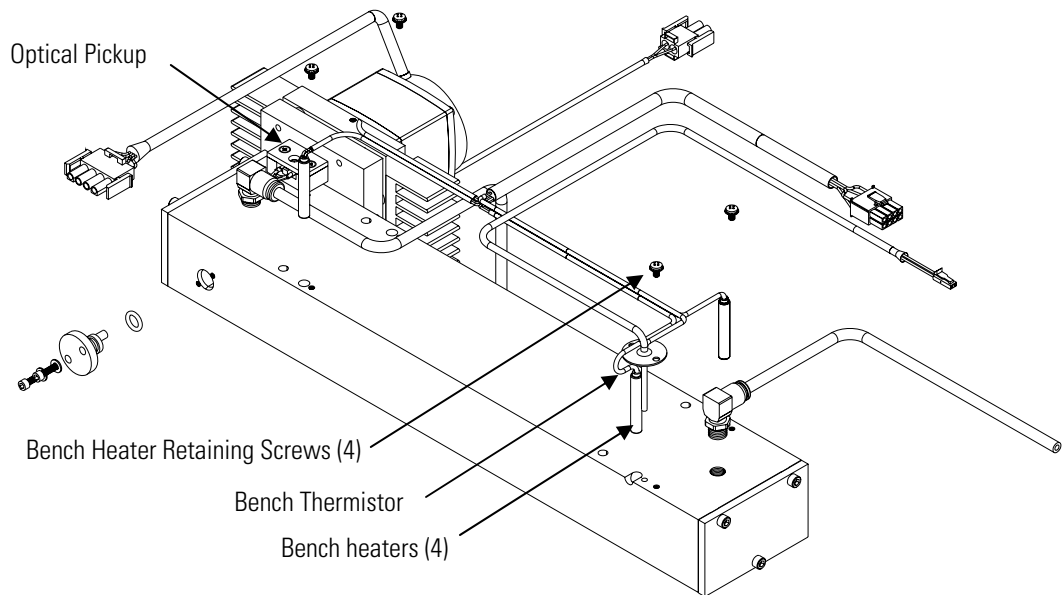

Figure 7–5. Optical Bench Bottom View
Use the following procedure to replace the bench thermistor assembly (Figure 7–5).
must be worn while handling any internal component (Figure 7–1). If an antistatic wrist strap is not available, be sure to touch the instrument chassis before touching any internal components. When the instrument is unplugged, the chassis is not at earth ground. ▲
3. Turn the optical bench over, remove the screw holding the thermistor to the bottom of the optical bench, and remove the thermistor assembly (Figure 7–5). Cut cable ties as necessary.